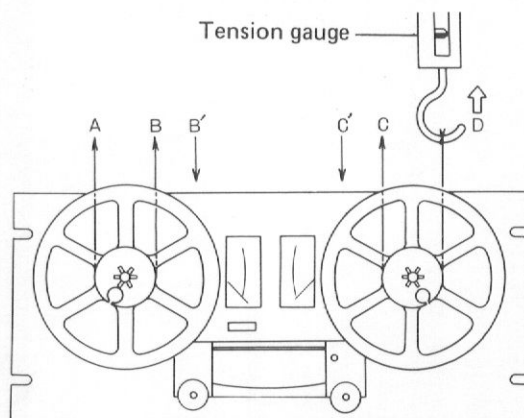

Fig. 23
Fasten a piece of string to a No. 7 reel (hub diameter 60mm) and place the reel onto the reel base (Fig. 23).
1. Forward playback at a set tape speed of 19cm/s and measure the back tension of the supply side reel base (Pull the gauge in direction B of Fig. 23).
3. Reverse playback at a set tape speed of 19cm/s and measure the back tension of the supply side reel base (Pull the gauge in direction C of Fig. 23).
1. Forward playback at a set tape speed of 19cm/s and measure the takeup tension of the takeup side reel base (Pull the tension gauge in the C' direction of Fig. 23).
3. Reverse playback at a set tape speed of 19cm/s and measure the take up tension of the takeup side reel base (Pull the tension gauge in the direction B' of Fig. 23).
1. Operate the set at rewind and measure the back tension of the supply side reel base. (Pull the tension gauge in the C direction of Fig. 23).